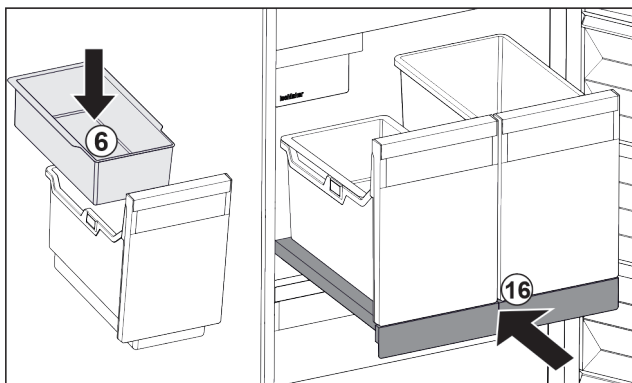

Fig. 33
- ▶ Insert hang-on tray Fig. 33 (6) for ice cubes.
- ▶ Slide in the pull-out board with (IceTower) container. Fig. 33 (16)